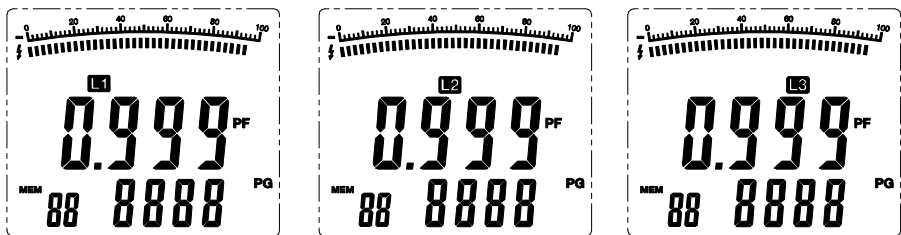

Figure 11
4. Press the L1-L2-L3 button to select the conductor clamped. (Fig.11)
5. The dual display indicates the power factor (PF) in the main display and the phase angle (PG) in the secondary display